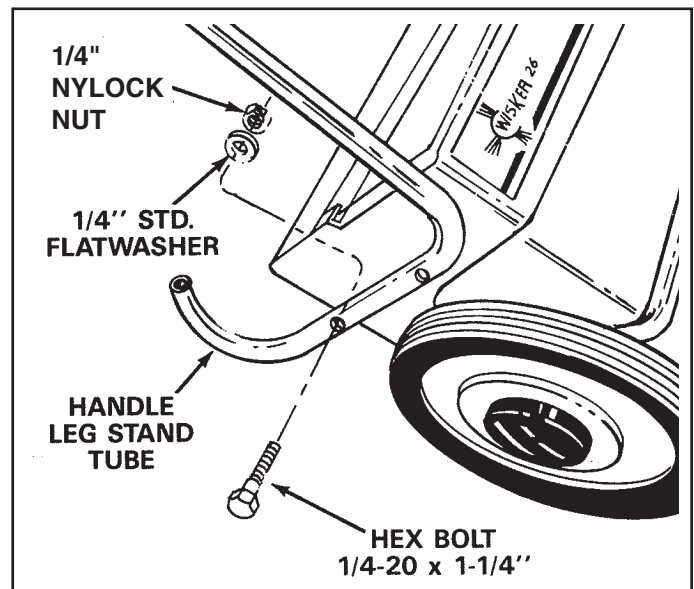

FIGURE 2
3. Turn the sweeper upright and assemble the two Handle Leg Stand Tubes to the Sweeper Housing, using two hex bolts 1/4" x 1-1/4" long, flat washers and 1/4-20 nylock nuts, per handle. See figure 2. Only hand tighten at this time.